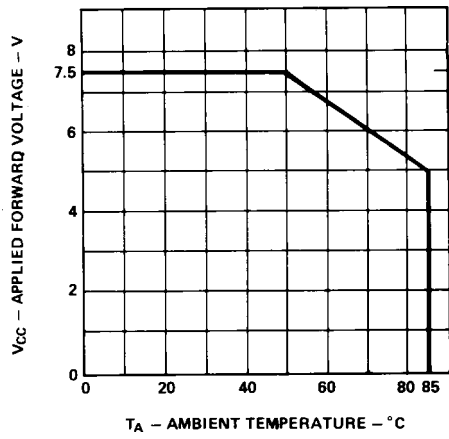

Figure 3. Maximum Allowed Applied Forward Voltage vs. Ambient Temperature  $R\theta_{JA} = 175^{\circ}\text{C}/\text{W}$ . 5 Volt Devices.
2. Derate from  $T_A = 50^\circ\text{C}$  at 0.071 V/°C, see Figure 3.